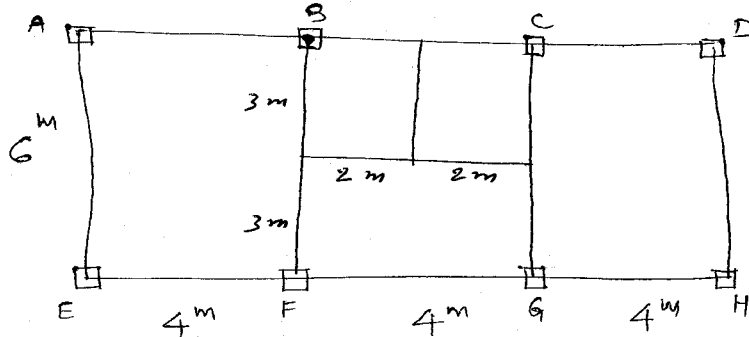

Fig. 1
- 3 The detail typical plan of multistoried building is shown in fig.1. Assume all beams of size of 230×560 mm and column of 230×600 mm. All external walls of 230 mm thick and internal walls of 115 mm. slab thickness of 120mm. use M_{20} and Fe415.